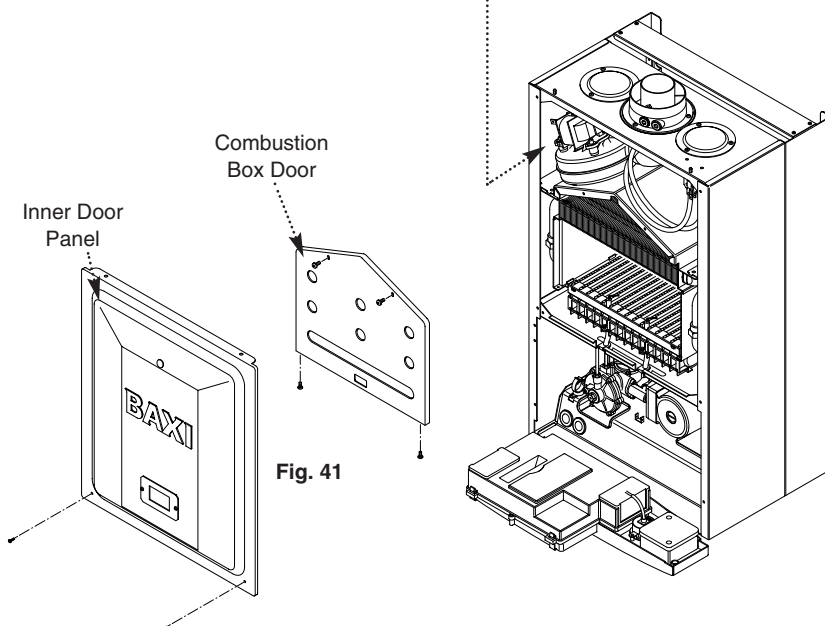

Fig. 41
7. Remove the screws securing the inner door panel. Lift the panel slightly to disengage it from the studs on top of the case (Fig. 41).
10. Remove the four screws securing the combustion box door and remove the door (Fig. 41).